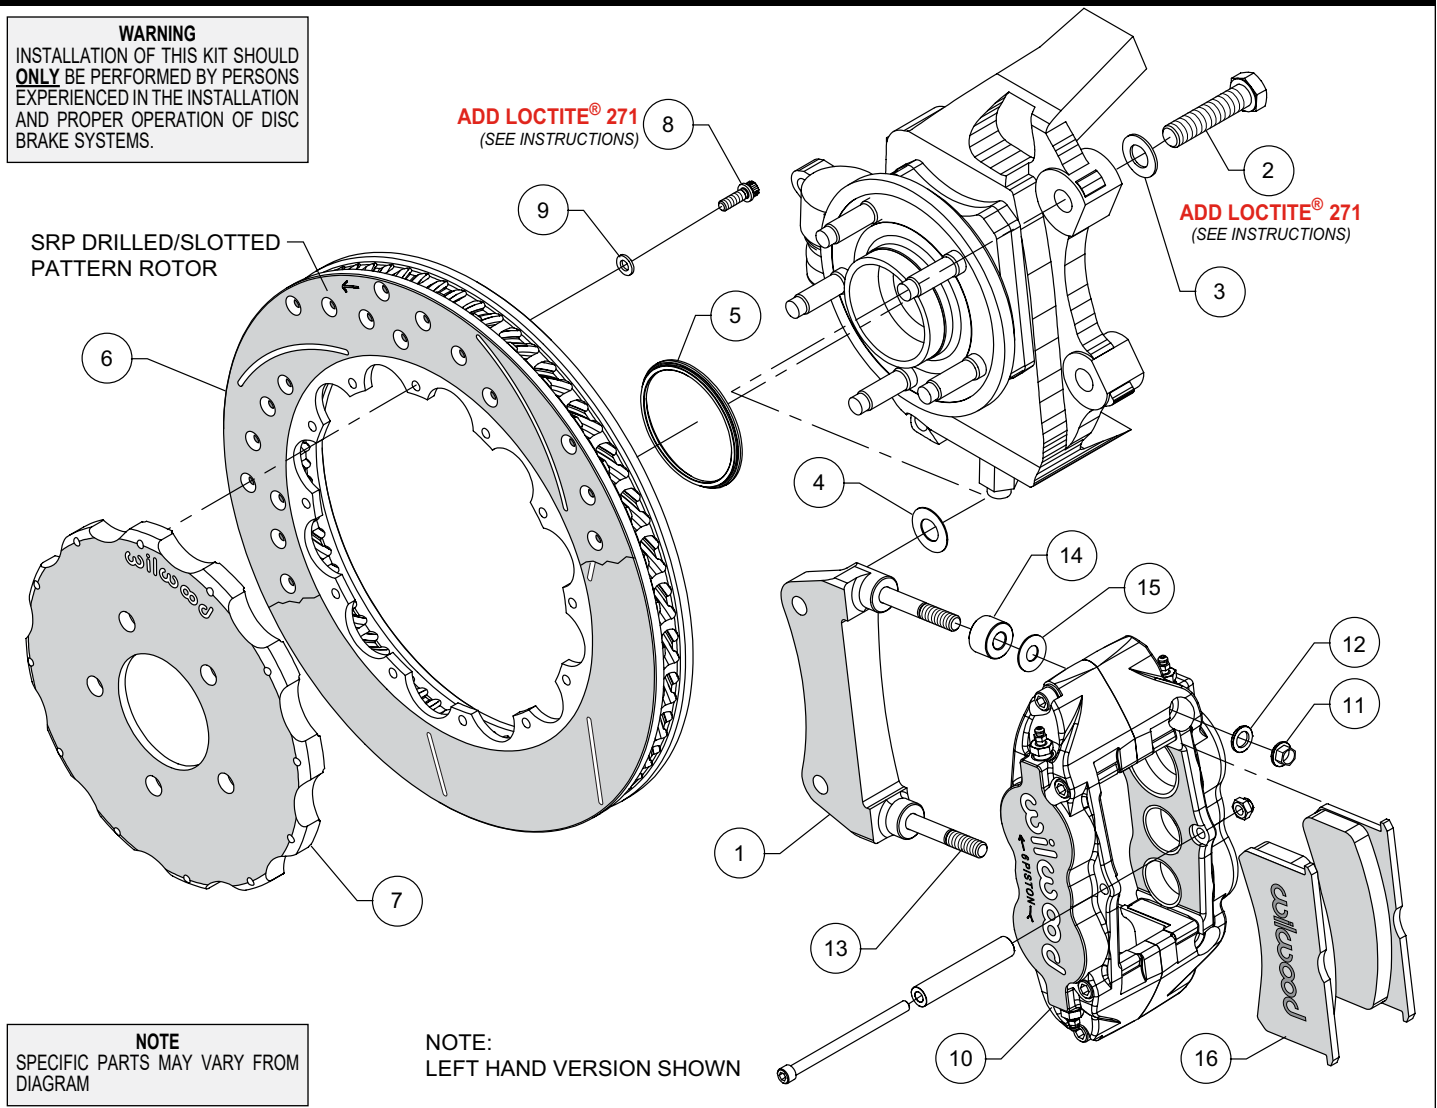
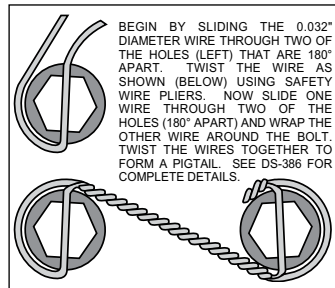

Figure 1. Typical Installation Configuration
Figure 3. Safety Wire Diagram
**Assembly Instructions** (numbers in parenthesis refer to the parts list and Figure 1 on the preceding pages):
- The caliper mount bracket (1) should initially be installed with clean, dry threads on the mounting bolts. Orient the bracket as shown in Figure 1 and Photo 1, and install using bolts (2) and washers (3). Initially place one .029 thick shim (4) on each bolt between the bracket and upright, Figure 1. Temporarily tighten the mounting bolts. **NOTE: The bracket must fit squarely against the mounting points on the upright.** Inspect for interference from casting irregularities, machining ridges, burrs, etc. Later, after the caliper alignment has been checked, the mount bolts will be secured using red *Loctite*® 271.
- Orient the rotor (6) and the hat (7) as shown in Figure 1 and Photo 2. Attach rotor to hat using bolts (8) and washers (9). Apply red *Loctite*® 271 to the bolt threads and torque to 155 in-lb using a criss-cross pattern. For an added measure of security, the bolts may be safety wired using standard 0.032 inch diameter stainless steel safety wire as shown in Figure 3. Please refer to Wilwood's data sheet DS-386 (available at [www.wilwood.com/Pdf/DataSheets/ds386.pdf](http://www.wilwood.com/Pdf/DataSheets/ds386.pdf)) for complete safety wire installation instructions.
- Slide the rotor registration adapter (5) onto the axle register on the axle hub with the smaller O.D. facing outward, Photo 3. Slide the hat/rotor (7 and 6) assembly onto the axle hub. **NOTE: The hat must fit flush against the axle hub face or excessive rotor run out may result.** Install three lug nuts (finger tight) to keep the hat/rotor assembly in place while continuing with the installation, Photo 4.
- **NOTE: This kit contains distinct right and left hand calipers that must be mounted in a specific direction, as described below.** Initially place one spacer (14) and one .035" thick shim (15) on each stud (13) between the caliper and the bracket, as shown in Figure 1 and Photo 5. Mount the caliper (10) onto the bracket (1) using lock nuts (11) and washers (12), Figure 1. Ensure that the caliper is mounted so the largest pistons are at the rotor exit end of the caliper, in relation to the direction of rotor rotation. Temporarily tighten the lock nuts and view the rotor through the top opening of the caliper. The rotor should be centered in the caliper, Photo 6. If not, adjust by adding or subtracting shims (4) between the bracket and the upright. Always use the same amount of shims on each of the two mounting bolts. Once the caliper alignment is correct, remove the bracket mounting bolts (2) one at a time, apply red *Loctite*® 271 to the threads, and torque to 77 ft-lbs.